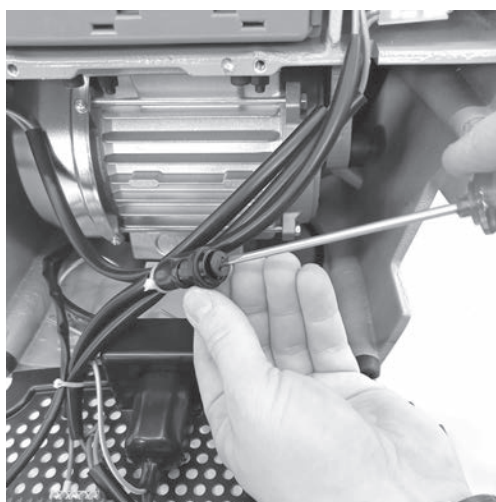

Fig. 44
- 2) Use a screwdriver to unscrew the fuse holder cover (Fig. 44).